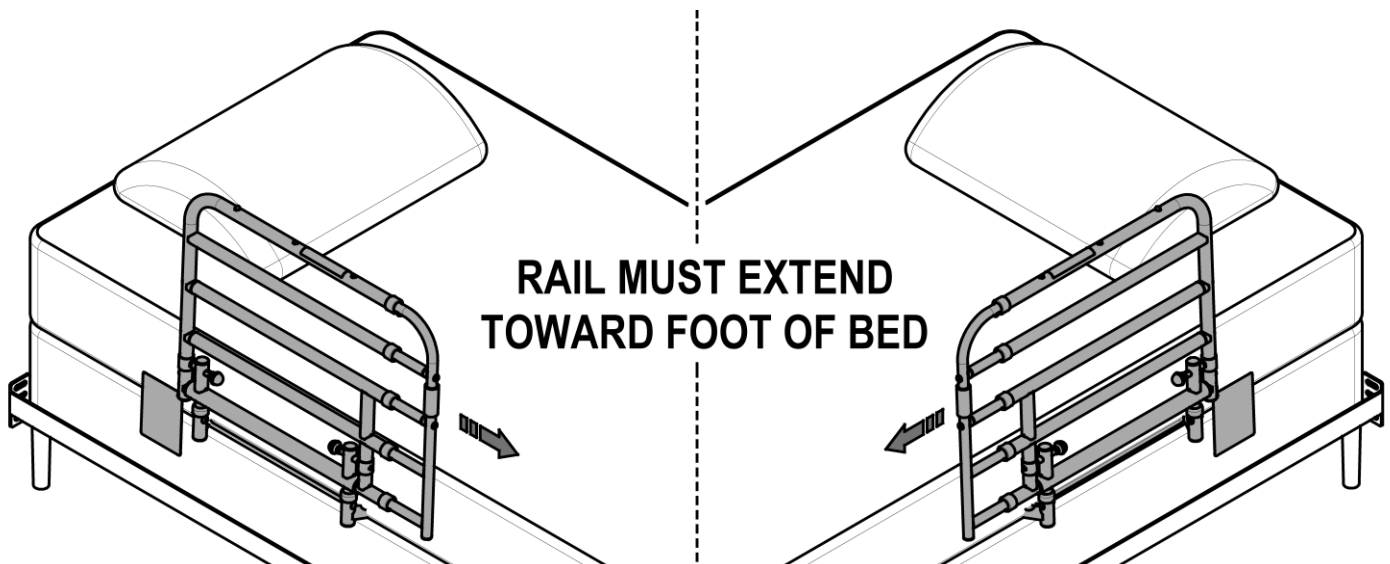

FIGURE 2
2. Determine which side of the bed the product will be installed on; the *Extendable Side* will always be closest to the *Foot of Bed*. Instructions show assembly for left image in *FIGURE 2*. For opposite assembly, reverse rail.